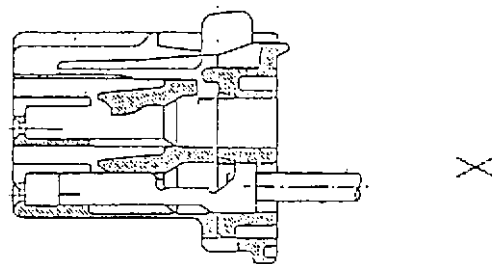
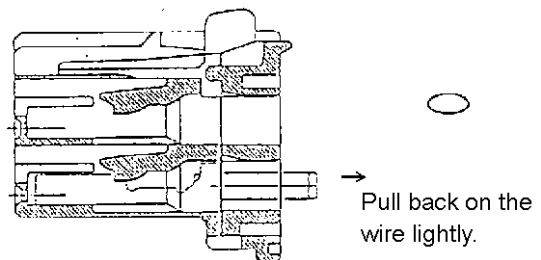

Fig.2 Contact is not locked.
Fig.3 When contact is correctly locked.
2. Verify that the terminal has been firmly locked to the housing lance. If the crimp is located at the center of the retainer during contact mounting as shown in Fig.2, contact locking is not engaged rightly, causing the contact to slip out. Push the contact into the lance as shown in Fig.3. Locking it to the housing lance correctly will make a clicking sound. After inserting the contact in place, check it by pulling the wire backward. Whenever the contact has to be removed for remounting, use the specified pulling tools.
2. If contacts are not mounted correctly inside the housing, double lock may not completely lock or effectively lock. See Figs.2 and 6.